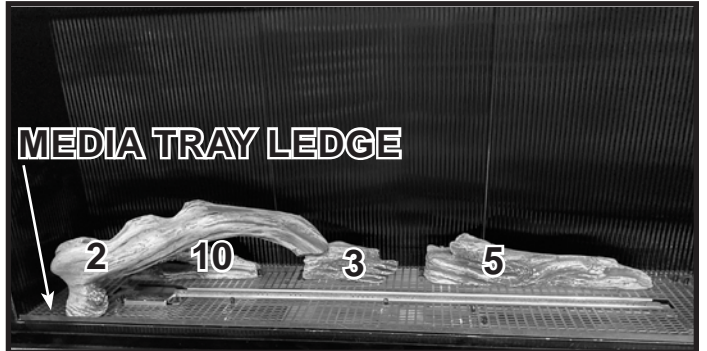

Figure 4 Install Log #2
**Log #2:** Place the right side of Log #2 on the flat spot on the left side of Log #3. Pivot the left side forward until it contacts the media tray ledge. See Figure 4.